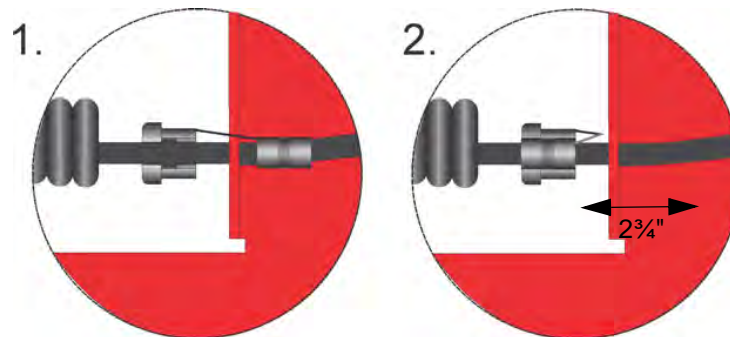

Figure 4.9 Installing Strain Relief Clip
3. Attach strain relief clip to microphone cord. The strain relief clip should have about $2\frac{3}{4}$ " of microphone cord through it. See Figure 4.9.